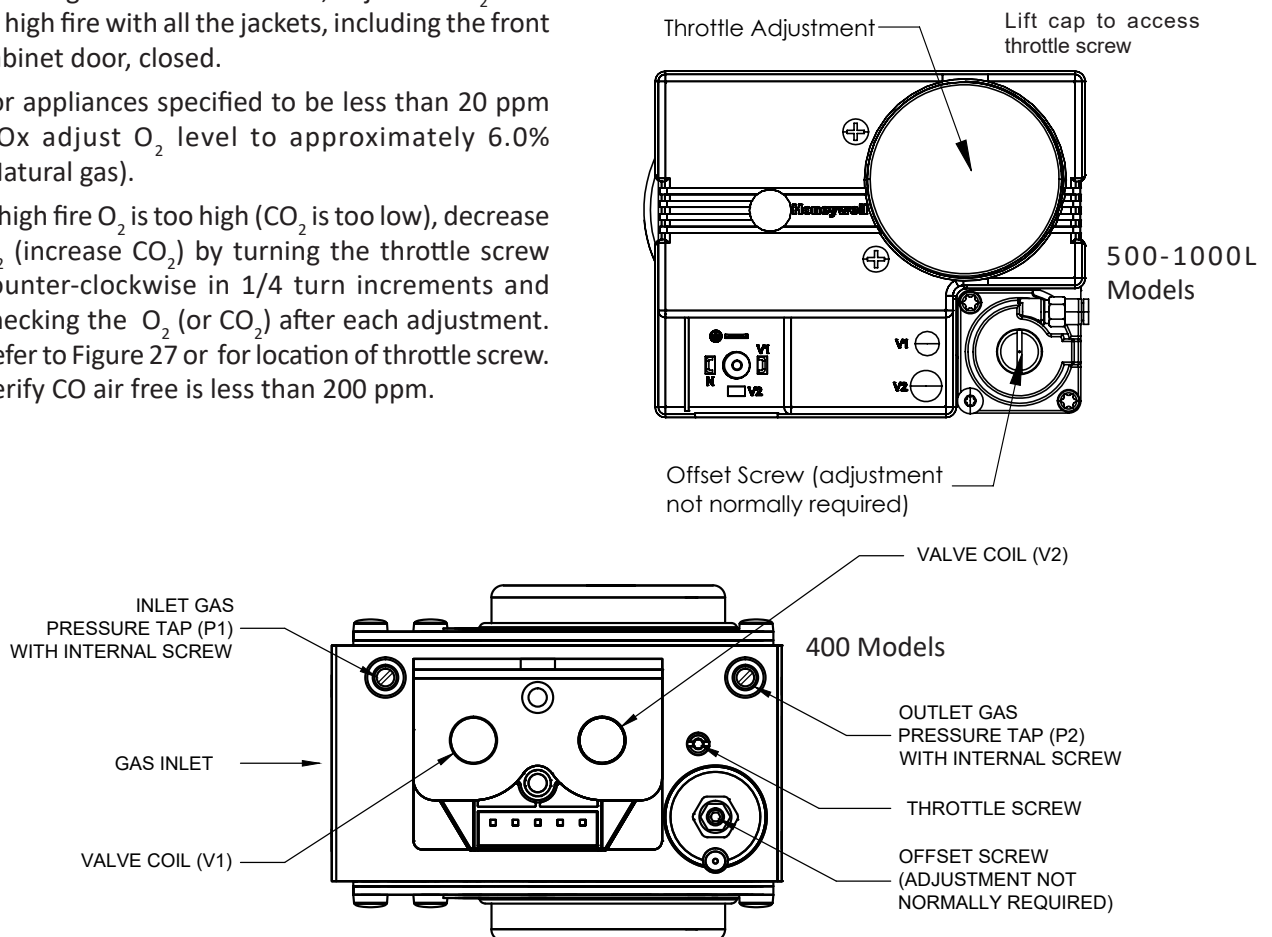

Figure 27: Gas Valve Adjustment
- d. If high fire O_2 is too high (CO_2 is too low), decrease O_2 (increase CO_2) by turning the throttle screw counter-clockwise in 1/4 turn increments and checking the O_2 (or CO_2) after each adjustment. Refer to Figure 27 for location of throttle screw. Verify CO air free is less than 200 ppm.